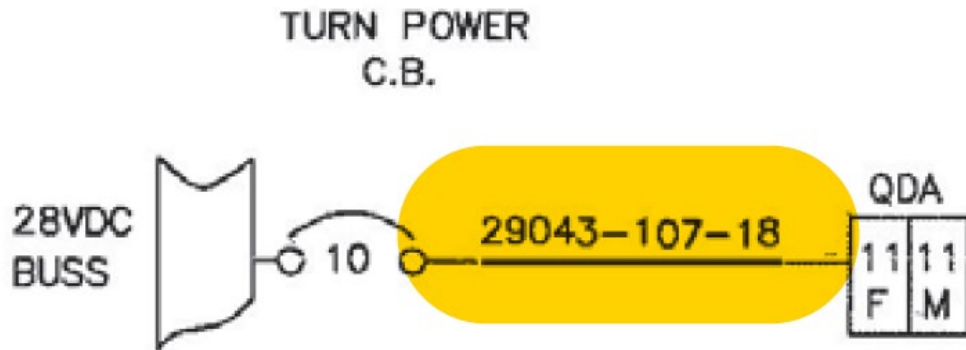

Figure 16: Right Hand Panel 10 Amp Circuit Breaker (Turn Light Power) Wire
21. Connect 29043-107-18 wire to Right Hand Panel 10 Amp Circuit Breaker (7277-2-10 Turn Light Power Circuit Breaker) as shown in Figure 16.